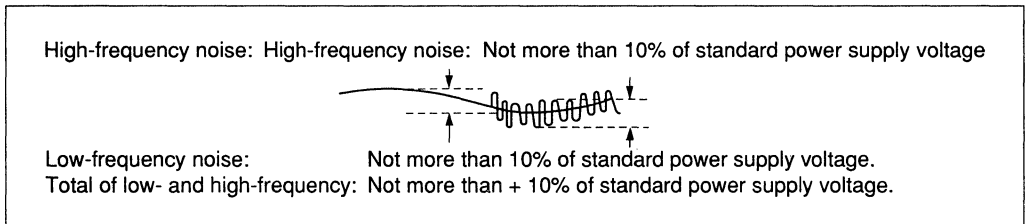

Figure 3-5 Power Supply Noise
**Power Supply Noise:** Power supply noise can be classed as low-frequency and high-frequency as shown in Figure 3-5. To assure a stable memory operation, combined low- and high-frequency noise should be held below 10 percent of the standard level of the peak-to-peak power supply voltage.